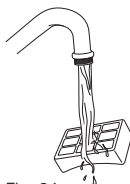

Fig. 24
- 4 Wash the filter under the tap using lukewarm water with the dirty side face down until the water runs clear. (Fig. 24)